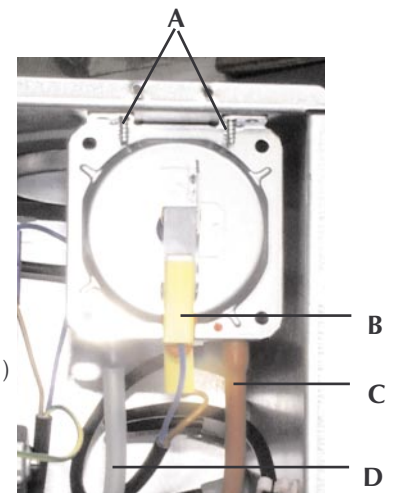

Fig. 30
7.06 Air pressure switch (fig. 30)